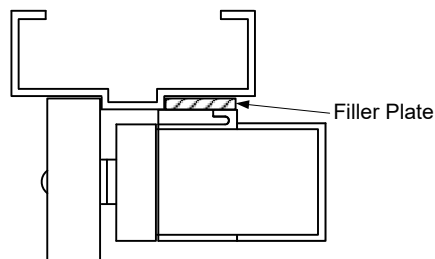

FIG. 2B
2. Prior to drilling, inspect to see if any of the holes cannot be drilled due to the frame or door configuration. A Filler Plate or Angle Bracket may be required as shown in Figures 2B and 2C (see page 13 for part specifications).